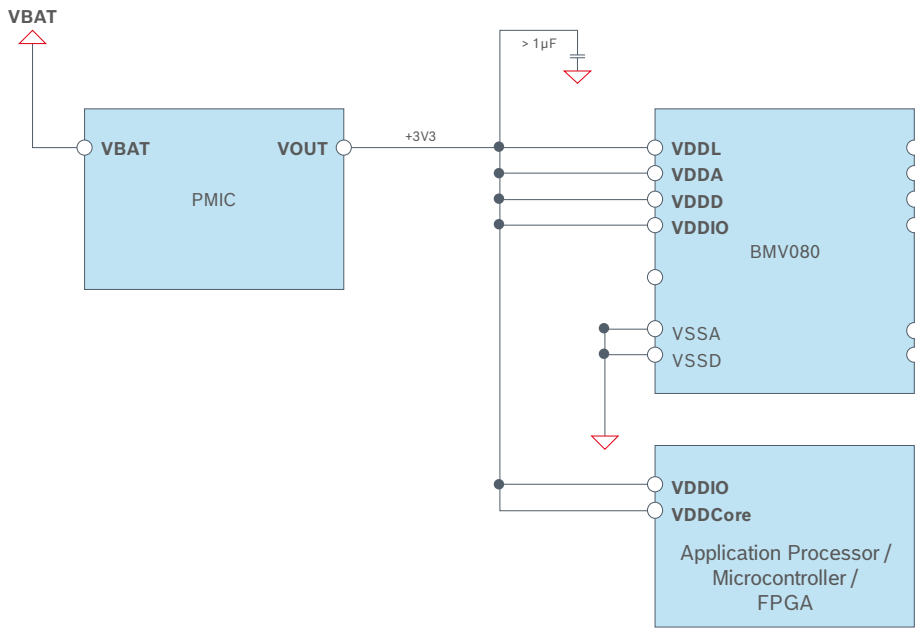

Figure 24: Power-supply configuration with a single supply rail
- Figure 24 illustrates the simplest connection possible where all four power domains of the BMV080, i.e., VDDL, VDDA, VDDD, and VDDIO, are powered by the same rail (3.3V)